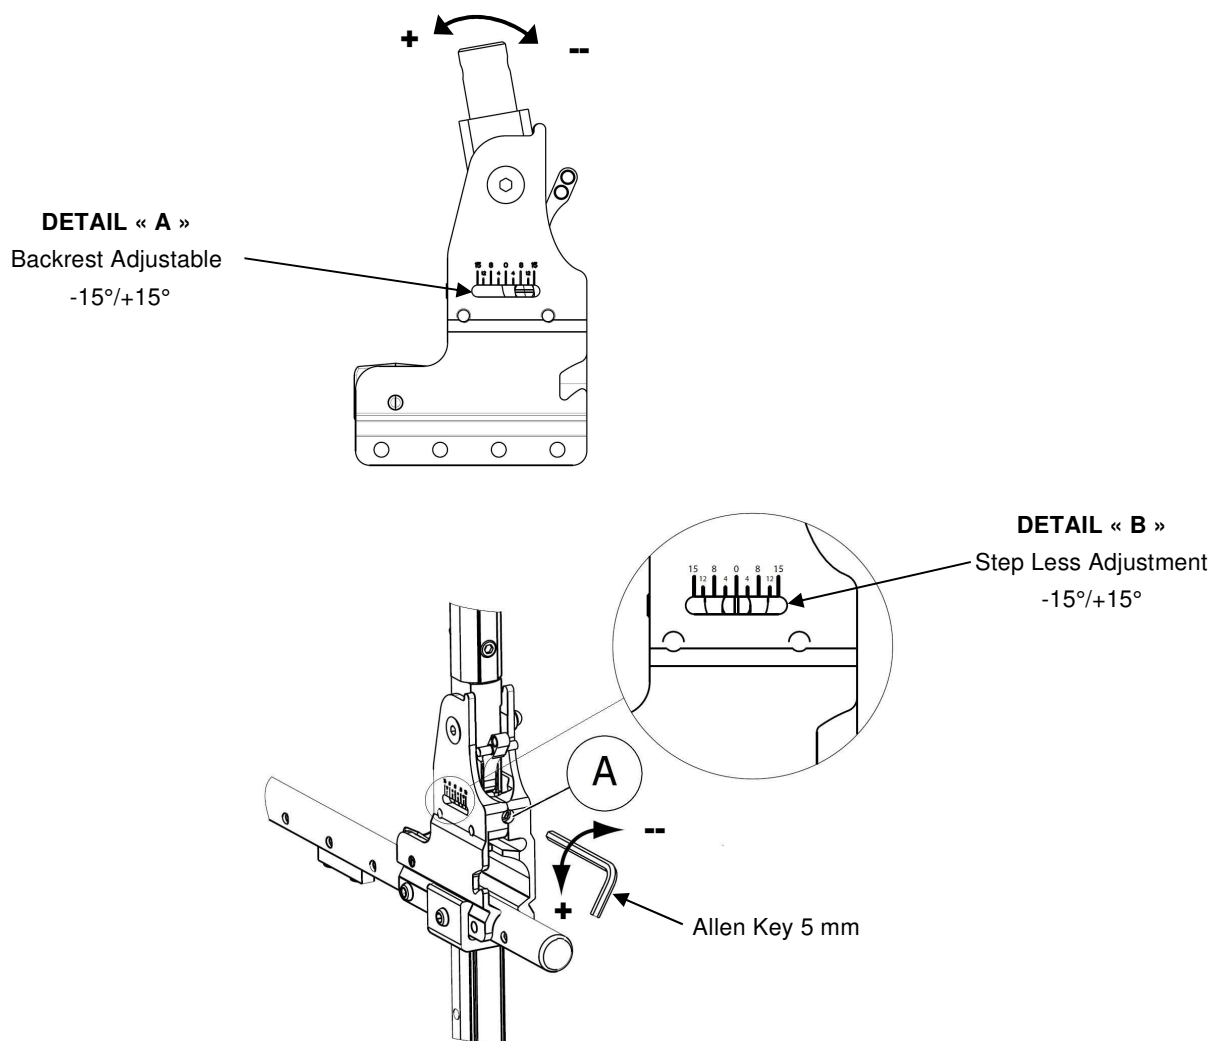

FIGURE 4.6 Adjusting the Angle Adjustable Backrest
NOTE: For this procedure, refer to FIGURE 4.6, next page.
1. Adjust the back angle thanks to the adjustable screw (A).
2. Turn Allen key (5 mm) clockwise to obtain a negative angle.
3. Alternatively, turn Allen key (5 mm) under clockwise to obtain a positive angle.
4. Ensure both adjustment to the desired angle are equal on each side of the Back Cane Bracket. Refer to Detail “B” of FIGURE 4.6